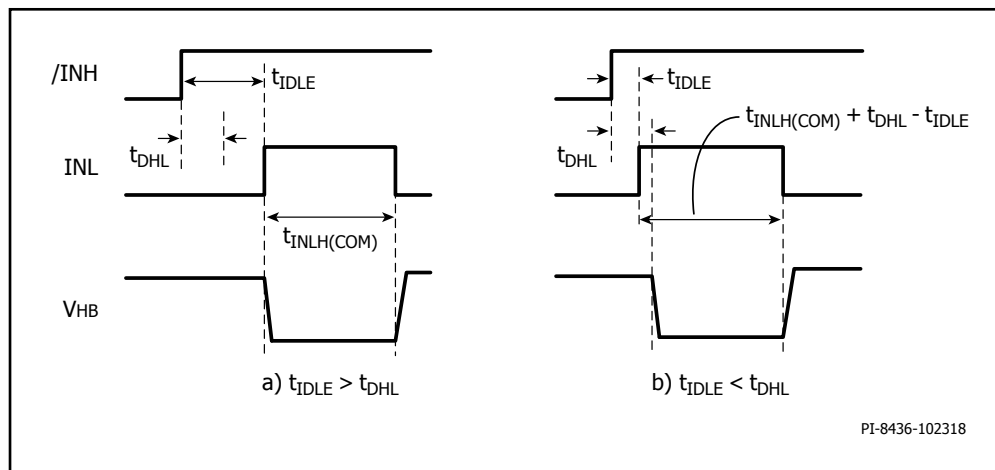

Figure 24. Minimum INL High Time Required for Device Internal High-Side Status Update a)  $t_{IDLE} > t_{DHL}$  b)  $t_{IDLE} < t_{DHL}$ .
- Assumes control input /INH was high for an idling period of  $t_{IDLE} > t_{DHL}$ . The required minimum INL high time for internal communication increases by  $t_{DHL} - t_{IDLE}$  if  $t_{IDLE} < t_{DHL}$  (refer to Figure 24).